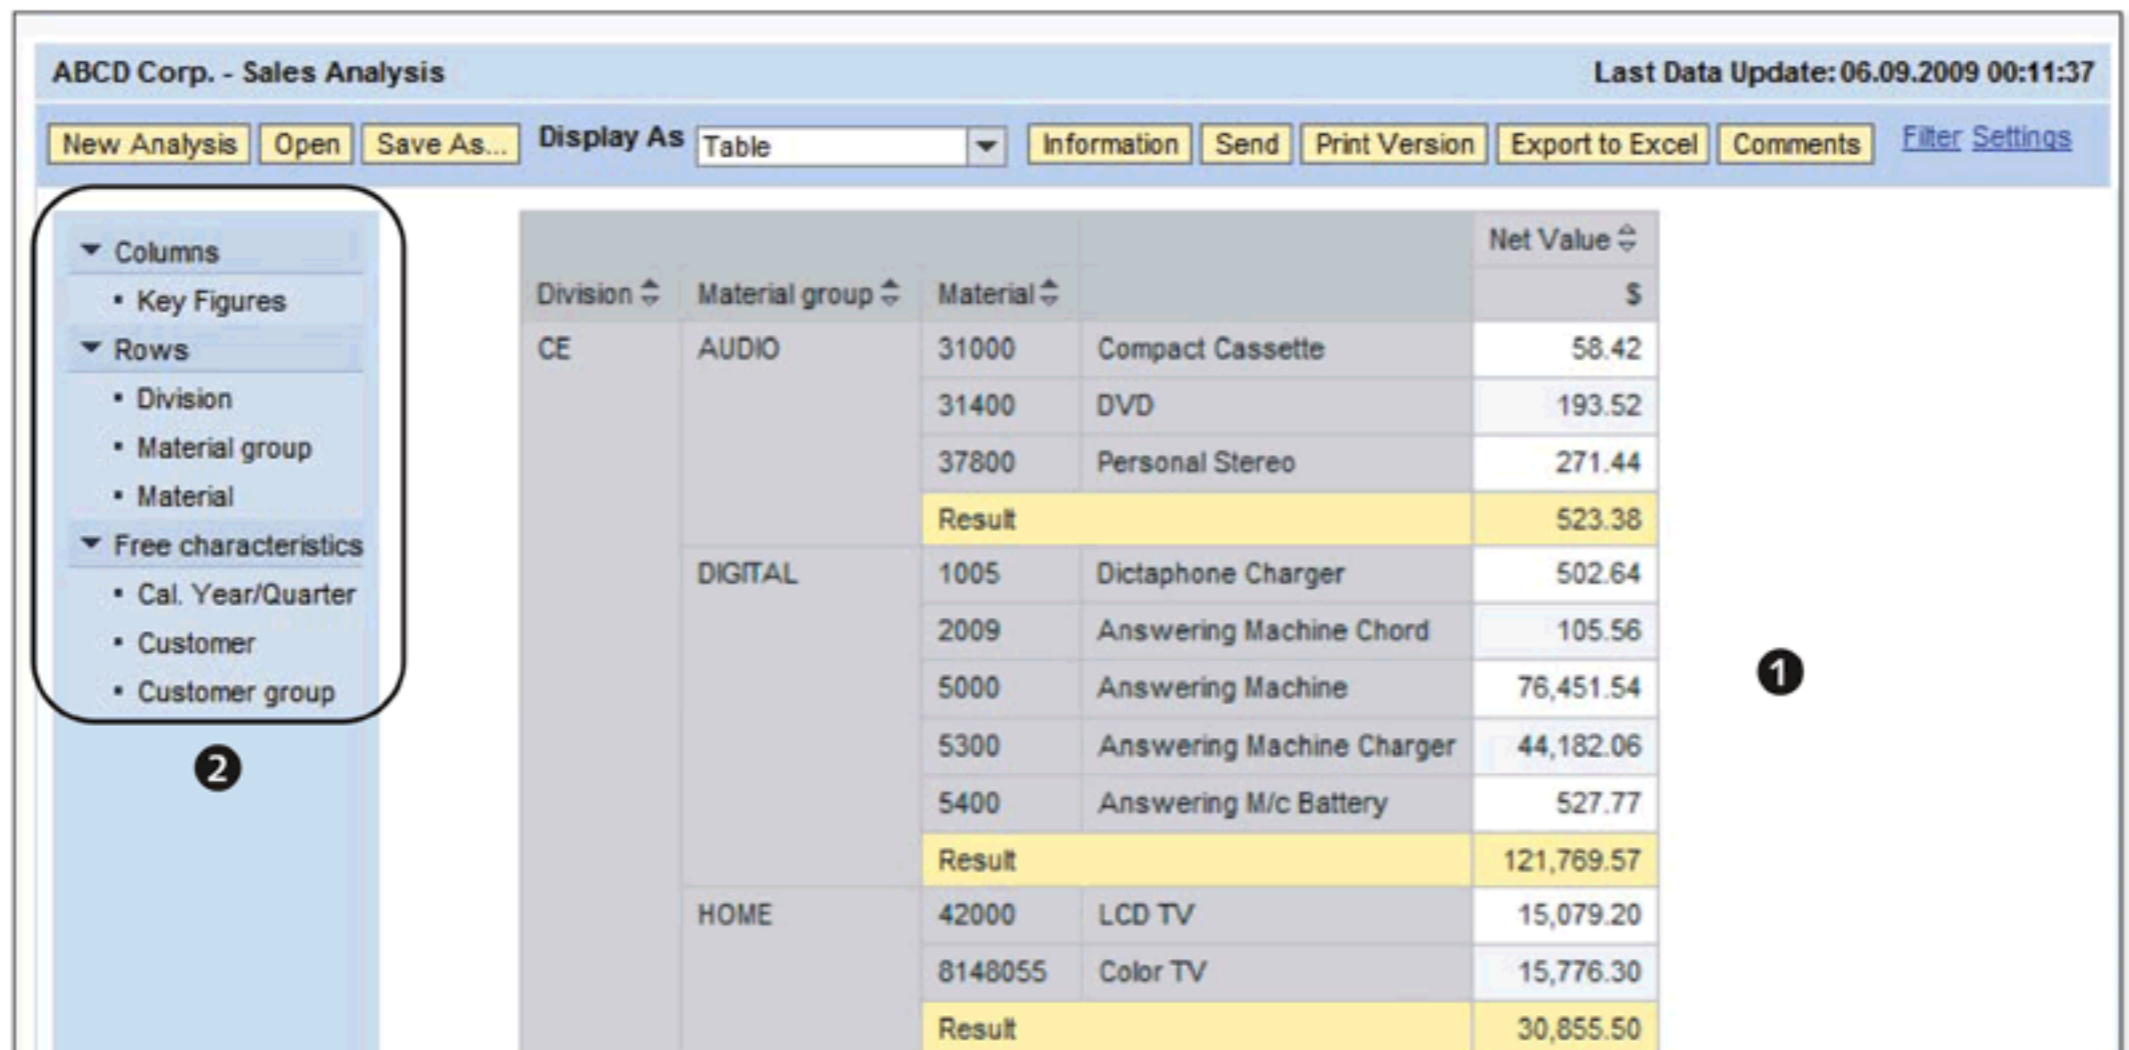

Figure 10.43 BEx Web Analyzer Layout
Data from the InfoProvider is displayed in the tabular format on the right side of the screen (1 of Figure 10.43). All query elements, such as characteristics in rows/columns and key figure structures, are visible in a navigation pane on the left side (2).